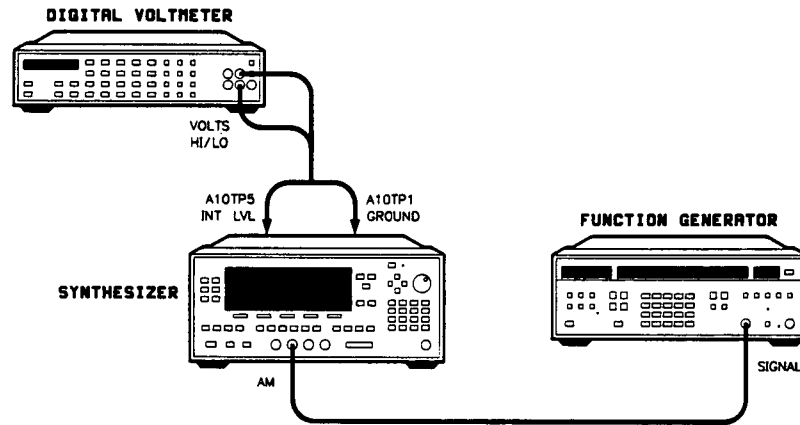

Figure 3-32. AM Delay Adjustment Setup
1. Preset the instruments shown in figure 3-32 and let them warm up for at least one hour.
3. Connect the equipment as shown in figure 3-32.